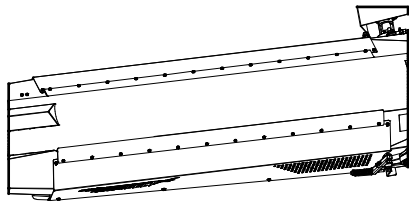

FIGURE 1
- Place the Covers PN# 5827 and PN# 5829 with the Rubbers PN# 6387 to the Intake using Self Tapping Screws and flat washers as shown in Figure 1. Parts can be found in Hardware Box 6685, and fasteners in Bolt Bag PN# 6068.